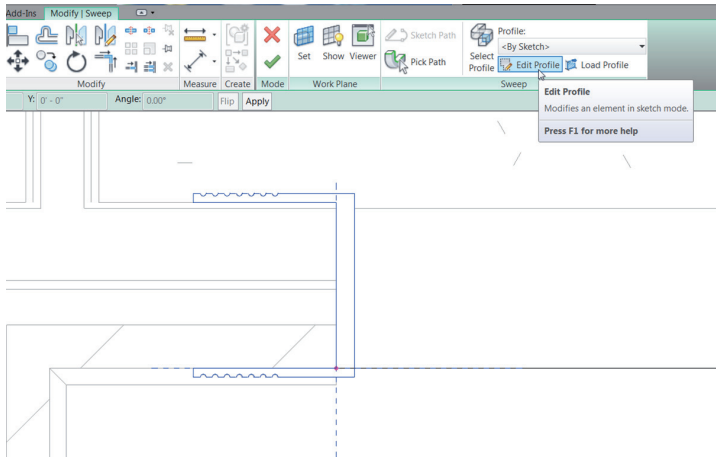

FIGURE BC2.32: Sketching the profile
18. On the Sweep panel, click the Edit Profile button (see Figure BC2.32).
19. Sketch a profile similar to that shown in Figure BC2.32. Make it any size, shape, and complexity you want.